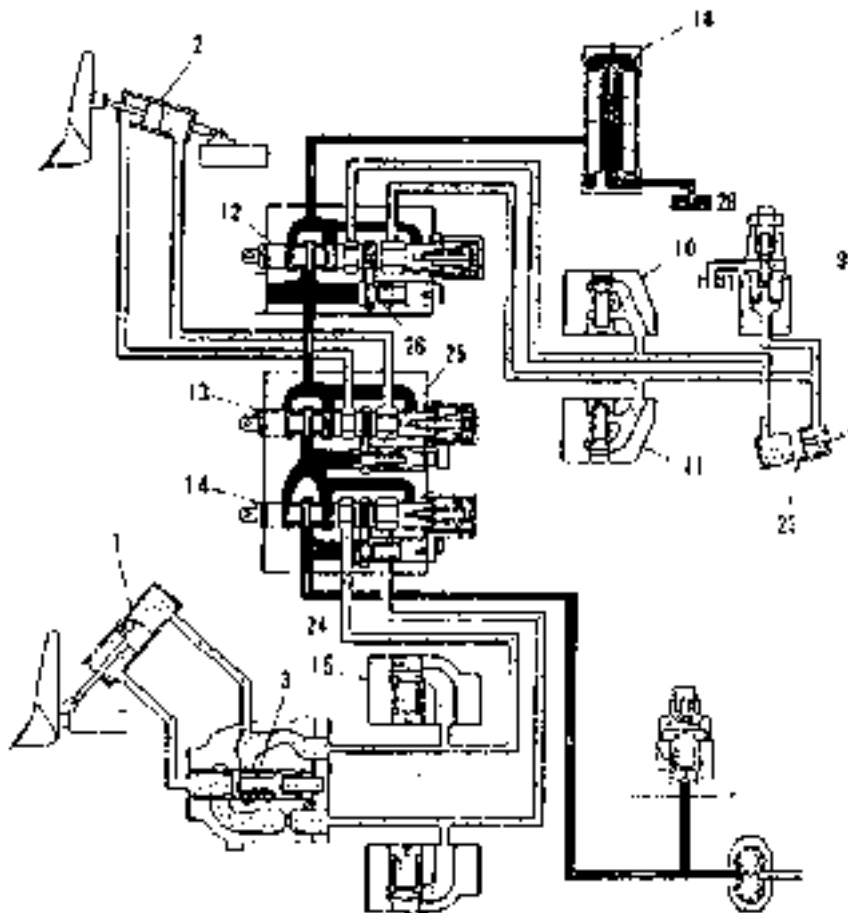

Fig. 2-48 Hydraulic operation principle of working equipment
2. Hydraulic operation principle of working equipment (See Fig. 2-48).
When the direction of applied force is identical with that of movement of the cylinder's piston, vacuum is formed inside the cylinder. The oil make-up valve(10), (11), (15), (16)in Fig. 2-48 should be installed, their structures are shown in Fig. 2-51 and Fig. 2-52.